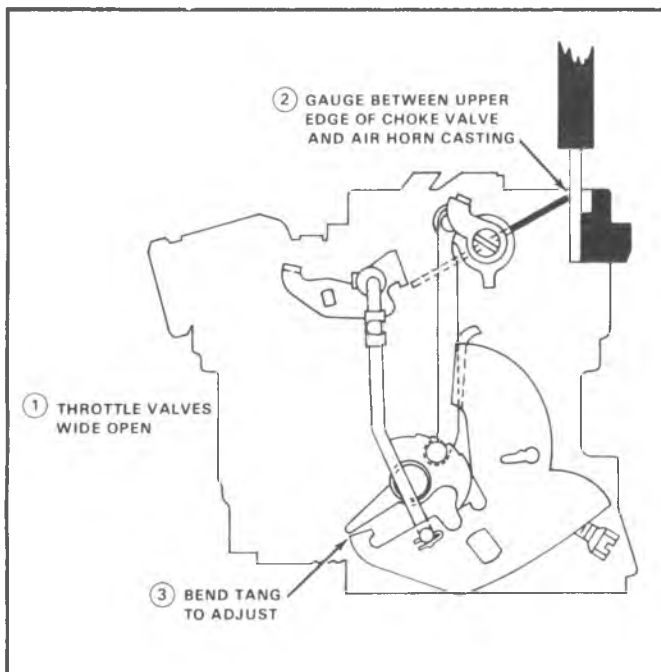

Fig. 29—Choke Unloader Adjustment
**CHOKE UNLOADER ADJUSTMENT (Fig. 29)**